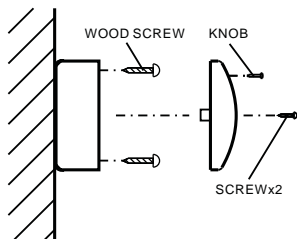

FIG.5
- Fix the top cover with enclosed screws as FIG.5 Shown.